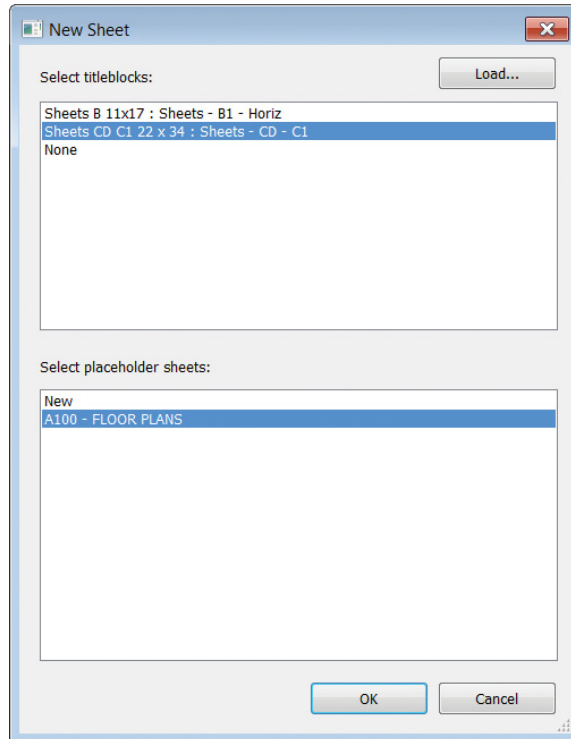

FIGURE 12.14 Adding sheets using a placeholder
5. Click the Sheet button on the View tab in the ribbon. In the New Sheet dialog box, choose the 22 × 34 Sheet CD – C1 titleblock, and select A100 – FLOOR PLANS from the list of placeholder sheets (Figure 12.14). Click OK to close the dialog box and create the new sheet.